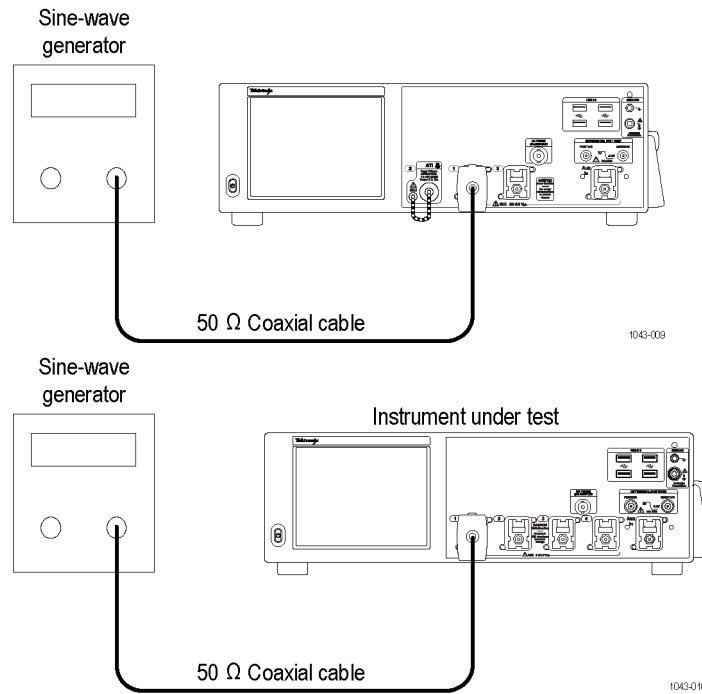

Figure 25: Timebase and delay time second test hookup
- b. *Hook up the test-signal source:* Connect the output of the sine wave generator to the **CH1** input. (See Figure 25: Timebase and delay time second test hookup on page 130.)